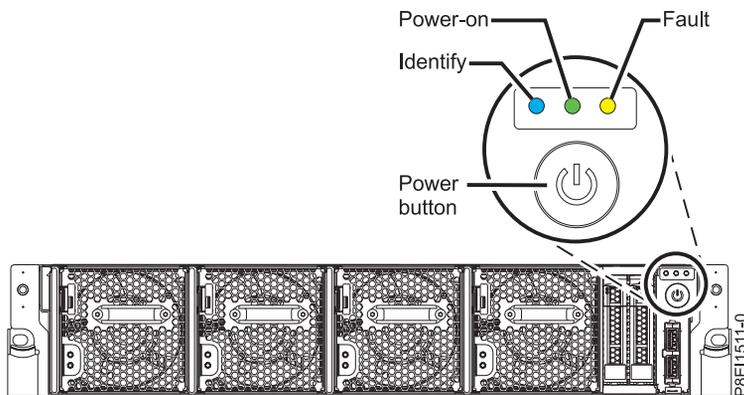

Figure 59. Power button
- The Power-on LED, as shown in Figure 59, is flashing. A flashing light indicates standby power to the unit.
3. Press the power button shown in Figure 59. The power-on light stops flashing and remains on, indicating that the system power is on. The system cooling fans are operate at a high speed, and after approximately 30 seconds, return to operating speed.